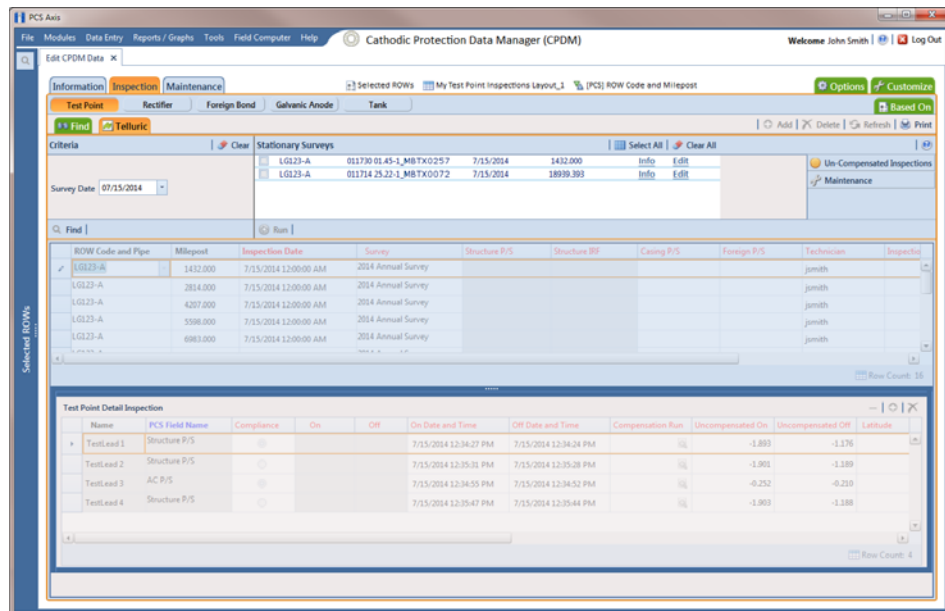

Figure 14-20. Telluric Workspace
- 3 Locate the upstream and downstream SDL survey files associated with the selected pipeline segment by clicking the down arrow in the **Survey Date** field and selecting a survey date using a calendar. You can also type a survey date in the field using the format MM/DD/YYYY to indicate the month, day, and year. Then click **Find** (Figure 14-20).
- 3 Locate the upstream and downstream SDL survey files associated with the selected pipeline segment by clicking the down arrow in the **Survey Date** field and selecting a survey date using a calendar. You can also type a survey date in the field using the format MM/DD/YYYY to indicate the month, day, and year. Then click  **Find** (Figure 14-20, page 637).